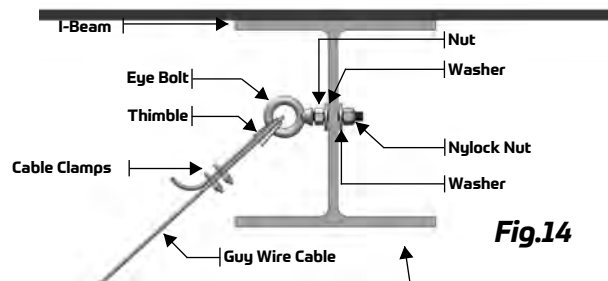

Fig.14
2. Fasten all eye bolts with nuts and washers as per Fig. 14.